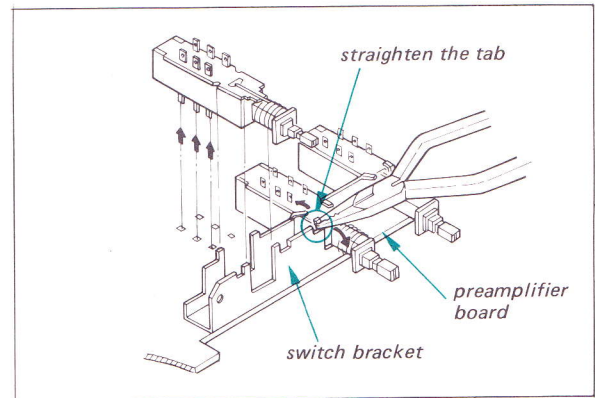

Fig. 2-6. Pushbutton switch replacement
5. Straighten the tab of the switch bracket to permit the removal of switch as shown in Fig. 2-6. This frees switch.